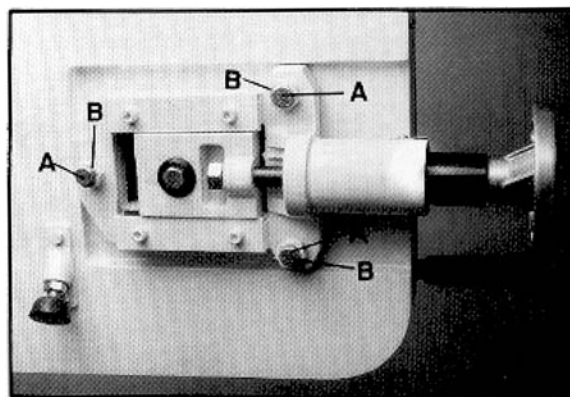

Figure 9
4. Loosen the three bolts (A, Figure 9) located on the top of the tracking nuts.
5. Tracking adjustment is accomplished by either loosening or tightening three adjusting nuts (B, Figure 9).
7. Tighten locking bolts (A, Figure 9) once proper tracking is completed.